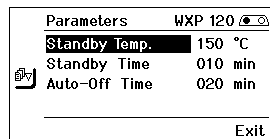

Fig. 9
2. Select menu option with the turn-and-click wheel (**7**). The selection is shown with a black background (e.g. "Standby Temp.", see Fig. 9).